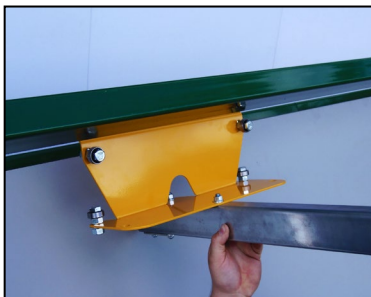

Fig 14
3. Tip the arm up and position the top bracket under the upper beam as shown. (Fig 14)